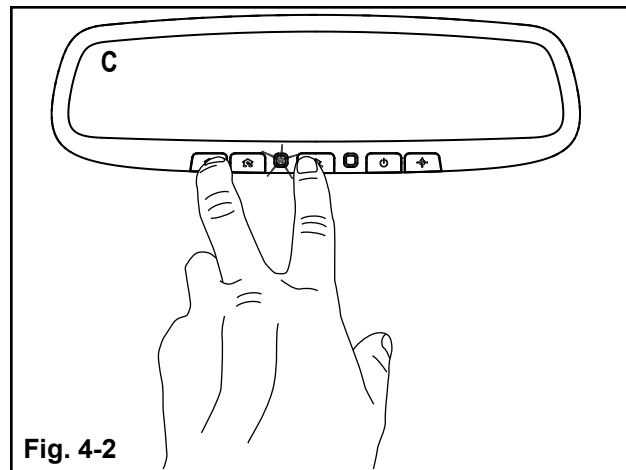

Fig. 4-2
- b) For first time training, begin programming by clearing memory. Press and hold the two outer HomeLink® buttons (“←” & “→”), releasing only when the HomeLink® indicator light begins to flash after 10 seconds. Do not hold buttons for more than 20 seconds. (Fig. 4-2)
NOTE: It is also suggested that upon the sale of the vehicle, the programmed HomeLink® buttons be erased for security purposes. To erase the programmed buttons, perform the procedure shown in step “b).” (Fig. 4-2)